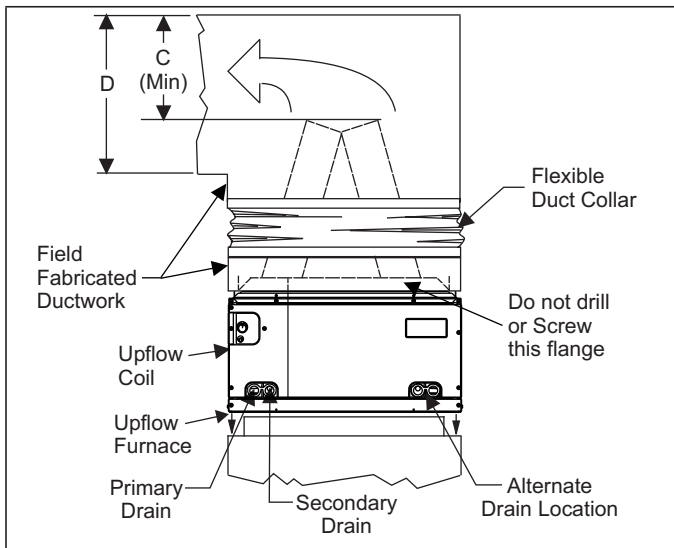

FIGURE 9: PC Series Upflow Coil Installation
1. Position the coil casing over the furnace opening as shown in Figure 9.
Do not drill any holes or drive any screws into the front duct flange on the coil in order to prevent damaging coil tubing. See Figure 9.
Dimension "C" should be at least 2/3 of dimension "D". See Figure 9.
The coil assembly must be located in the duct such that a minimum distance is maintained between the top of the coil and the top of the duct. Refer to Table 2 and Figure 9.